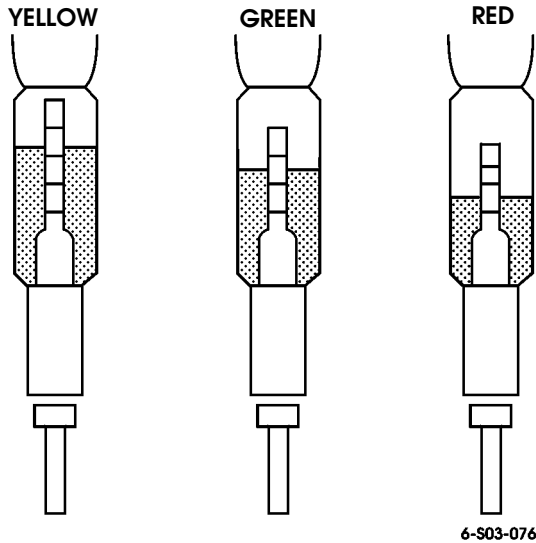

Figure 3-78: Checking Fuel Quality
4. Note fuel quality (Figure 3-78)